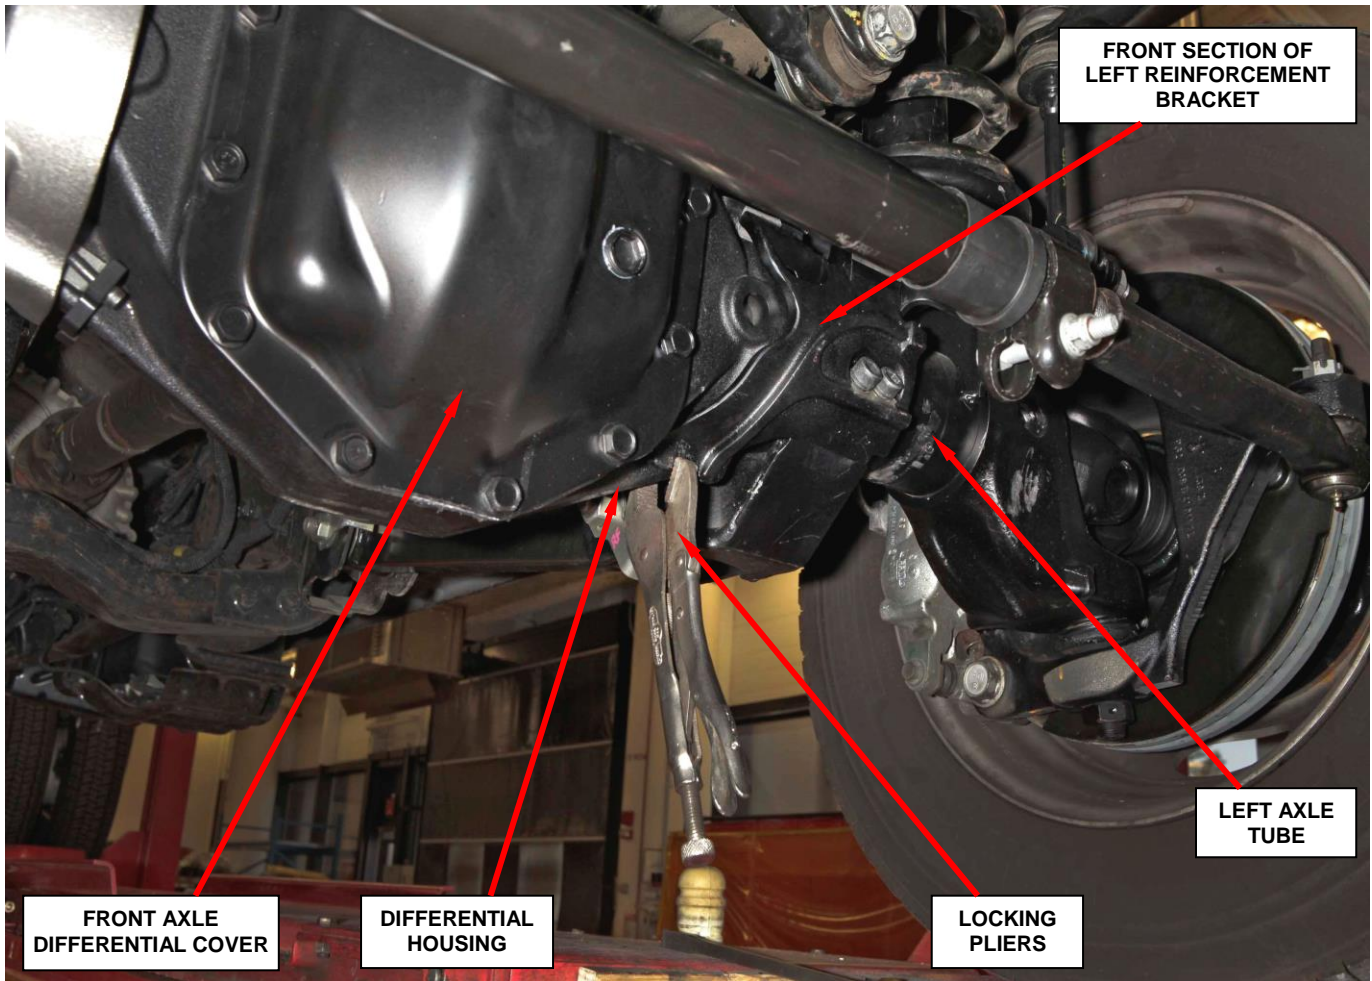

Figure 23 – Clamp Front Reinforcement Bracket to Differential Housing
- e. Install locking pliers or a “C” clamp on the edge of the front reinforcement bracket and differential housing (Figure 23).